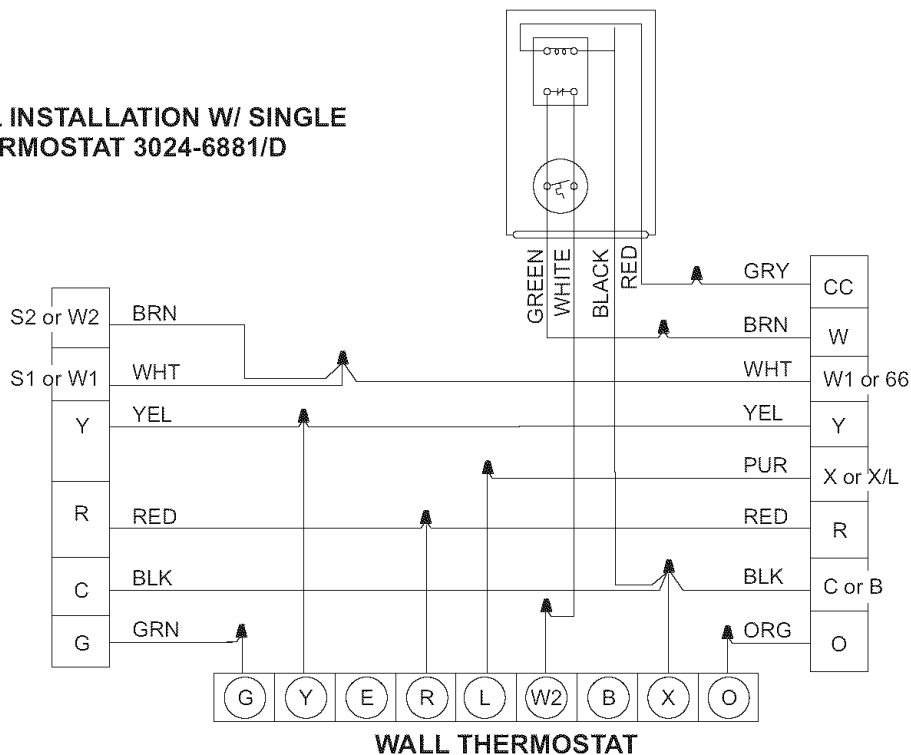

FIGURE 1 - Wiring Connections for BRHS, DRHS, FRHS, BH(Q), DH(Q), or FH with Revision Code of "D" or Higher
Use Figures 1 (single thermostat) or 2 (dual thermostat) for applications with BRHS, DRHS, FRHS, BH(Q), DH (Q), or BH(Q) model series with a revision code of "D" or higher at the end of the model number.